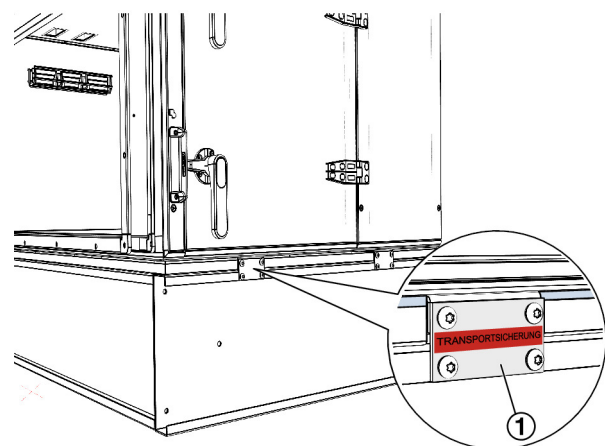

Fig. 10: Transport protection device on units with Vibration Baseframe
1. ▶ Unscrew screws on the transport protection devices ( Fig. 10 /1) using tool (TX30) and remove the metal sheets.